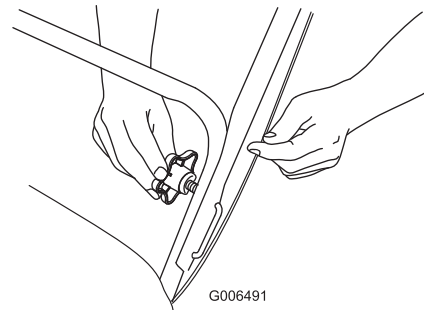

Figure 5
- Insert the end of the U-shaped handle lock into the open hole in the handle and tighten the handle knobs until they are snug (Figure 5).